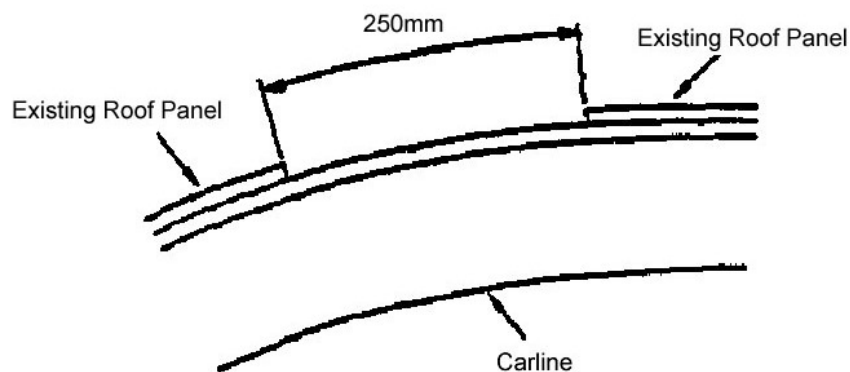

Figure 1: Repairs Width Exposing 250mm of Carline
1. Heavy Corrosion/Holes - Width exposing less than 250mm of carline (see Figure 1).
2. Heavy Corrosion/Holes - Width exposing more than 250mm of carline (See Figure 1).